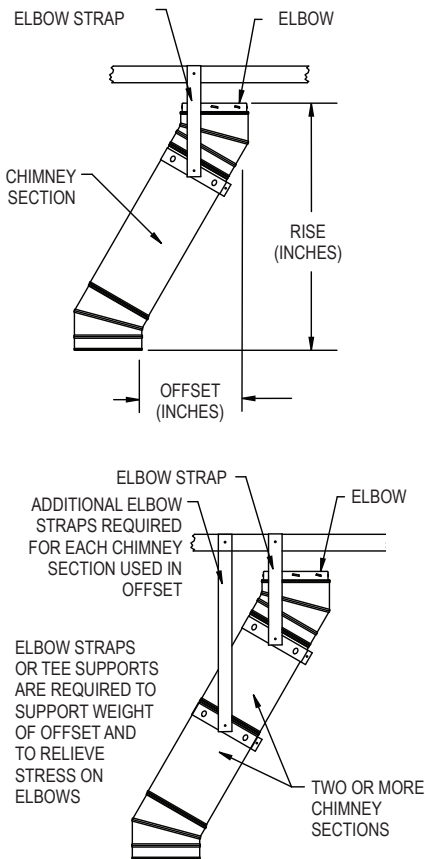

Figure 17
(between the elbows), there must be an Elbow Strap, Tee Support, or similar support method to support the weight of the pipe and to relieve stress on the Elbows. Attach the second Elbow above the Chimney Section to complete the offset (**Fig.17**).
2. Secure Offset: Place the Elbow Strap's band around the angled portion of the top Elbow, then tighten the nut and bolt until the clamp is firm. There are both dedicated diameter, and Universal components available, Wrap the Elbow Strap end over an adjacent joist or rafter and secure it with at least (2)
8-penny nails or (2) #8, 1-1/2 screws. Do not add more Chimney Sections until the Elbows are supported. Be sure that the chimney remains vertical. If there is more than one Chimney Section between the Elbows, install a second Elbow Strap around the joint of the two Chimney Sections (**Fig.17**).